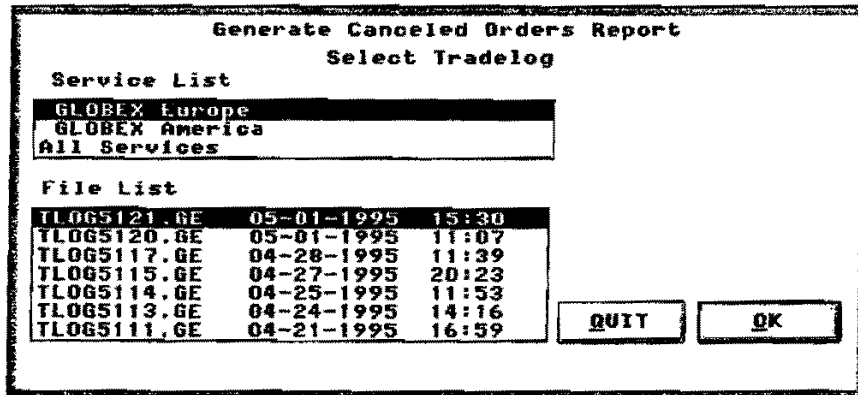

Figure 12.16 Generate Cancelled Orders Report Dialog Box
1. Select **Canceled Orders** in the Reports menu to display the dialog box shown in Figure 12.16. The highest priority Service is selected, as is the most recent of up to seven tradelog files displayed in the list. (Tradelog filenames are explained in Section 12.4.2.)